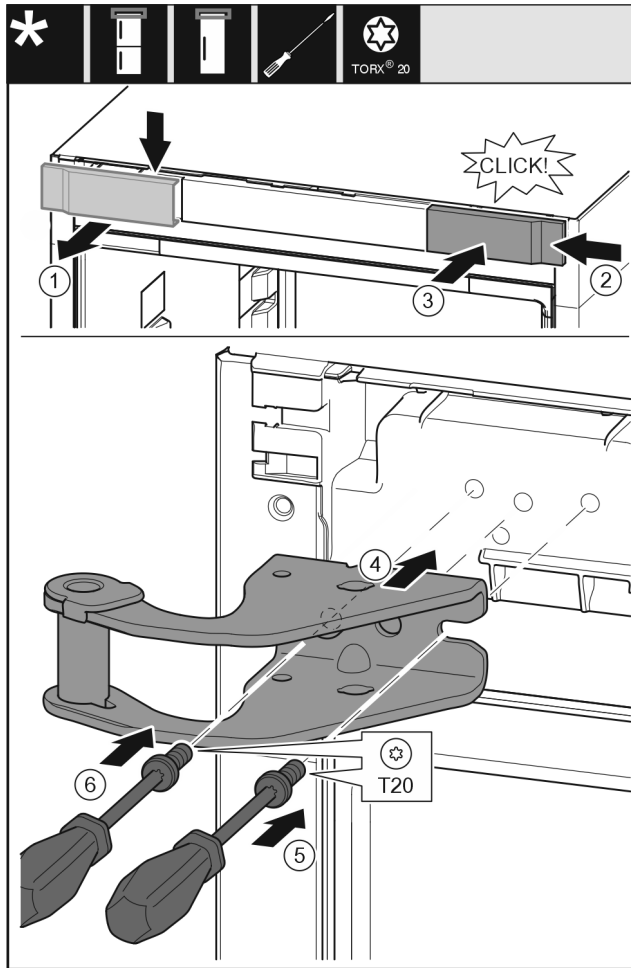

Fig. 32
- ▶ Remove the cover Fig. 32 (1) from above towards the front.
- ▶ Turn the cover Fig. 32 (2) by 180° and attach to the other side from the right.
- ▶ Engage the cover Fig. 32 (3).
- ▶ Place the top swap bearing block Fig. 32 (4).
- ▶ Use screwdriver Fig. 32 (5) to place the screw and tighten it.
- ▶ Use screwdriver Fig. 32 (6) to place the screw and tighten it.